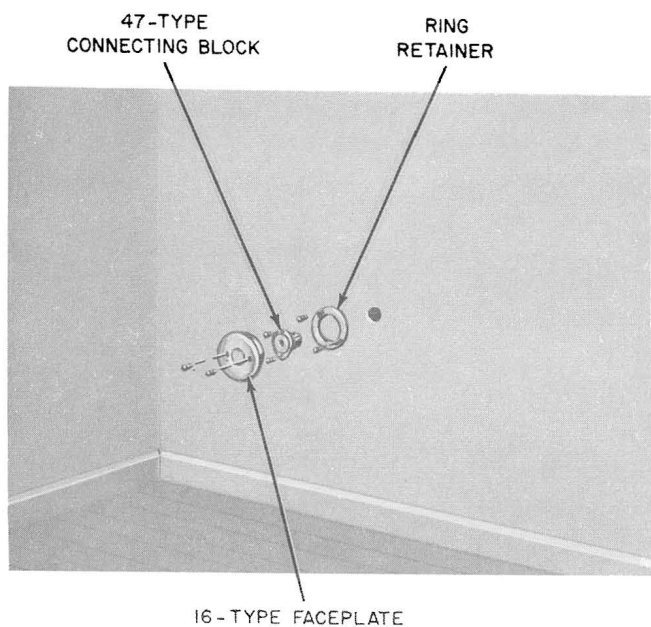

Fig. 15—Faceplate, Connecting Block, and Ring Retainer Associated with 63A Bracket
3.14 Install 47-type connecting block on 63A bracket (Fig. 15) as follows: